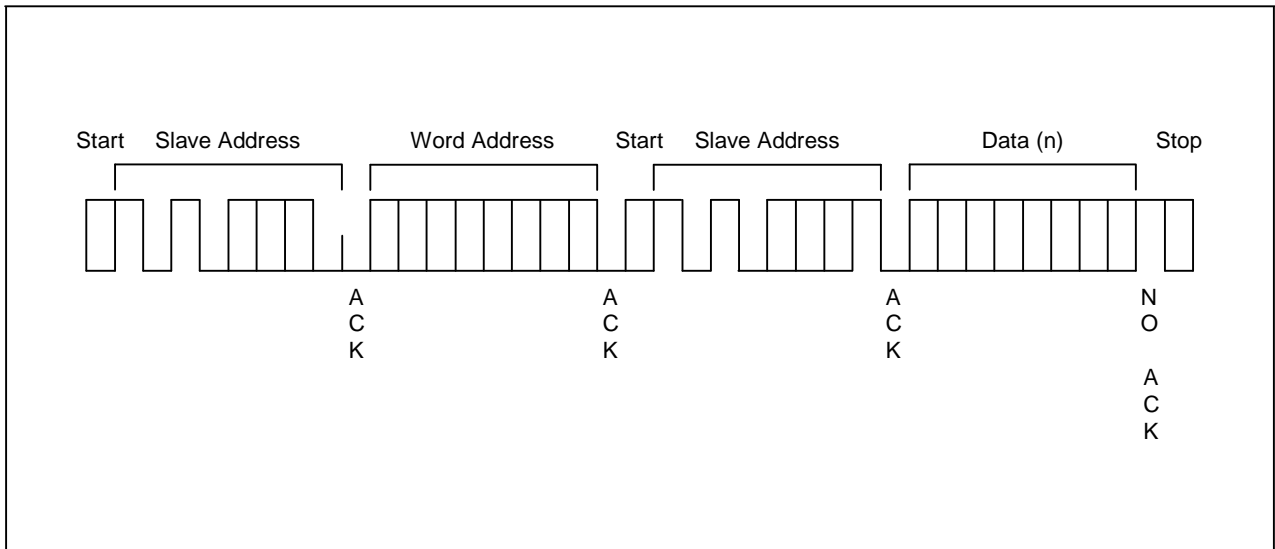

Figure 2-14. Random Address Byte Read Operation
5. In response, the TMC 24A01/24A02/24A04 stops transmitting data and reverts to its stand-by mode (see Figure 2-14).